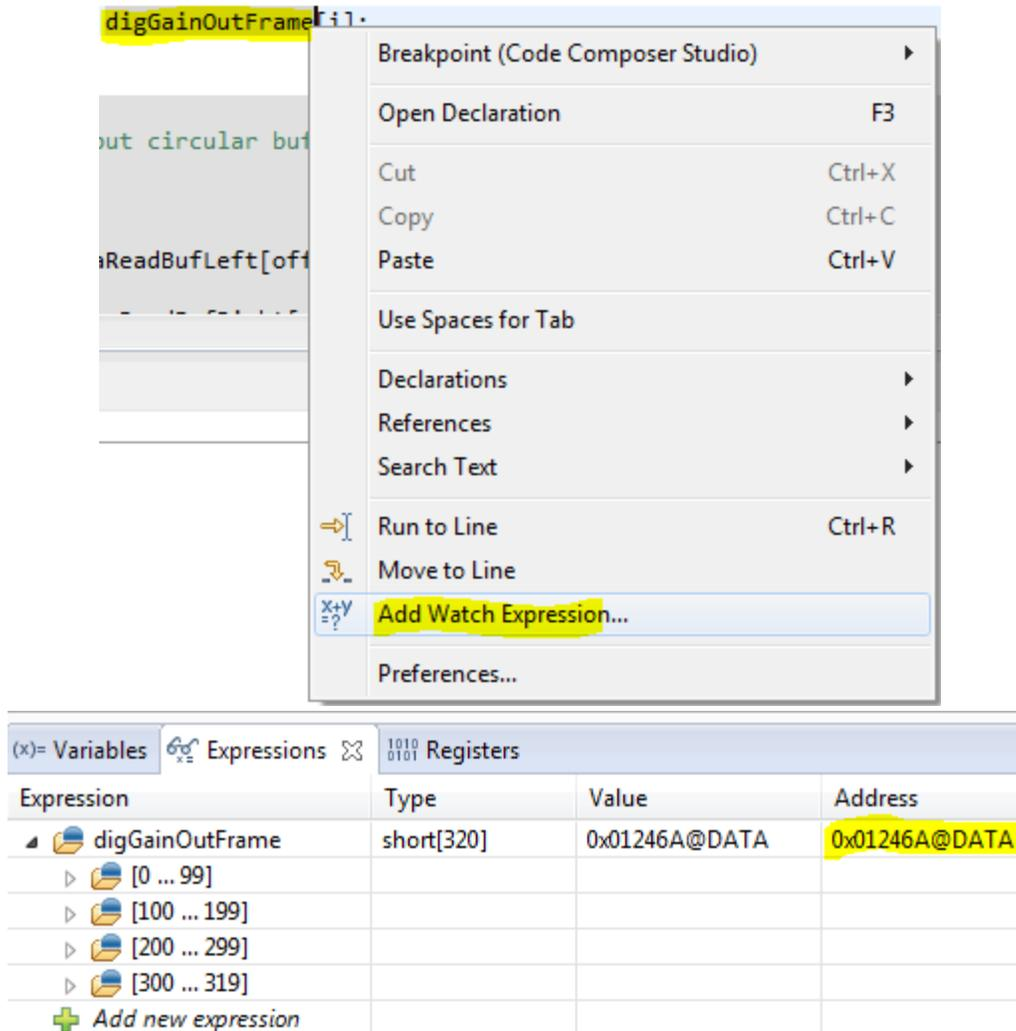

Figure 15. Adding a Watch Expression in CCS to Determine the Location of the Audio Buffers
- Prior to running the program, create a watch expression for digGainOutFrame in the watch expression window. digGainOutFrame is the buffer that holds the final output of the decimation stages. The objective of having this expression in the watch window is to ascertain the memory location to grab the audio sample output from the test program. As seen in Figure 15, the location in this case is DATA 0x01246A. This location may vary, so ensure that the address is known before running the program.